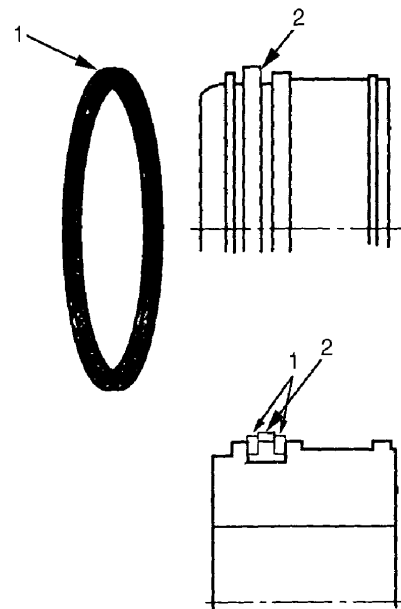

Figure 30
15. Install two backup rings, (1, Figure 30). One ring fits on either side of slipper seal (2).